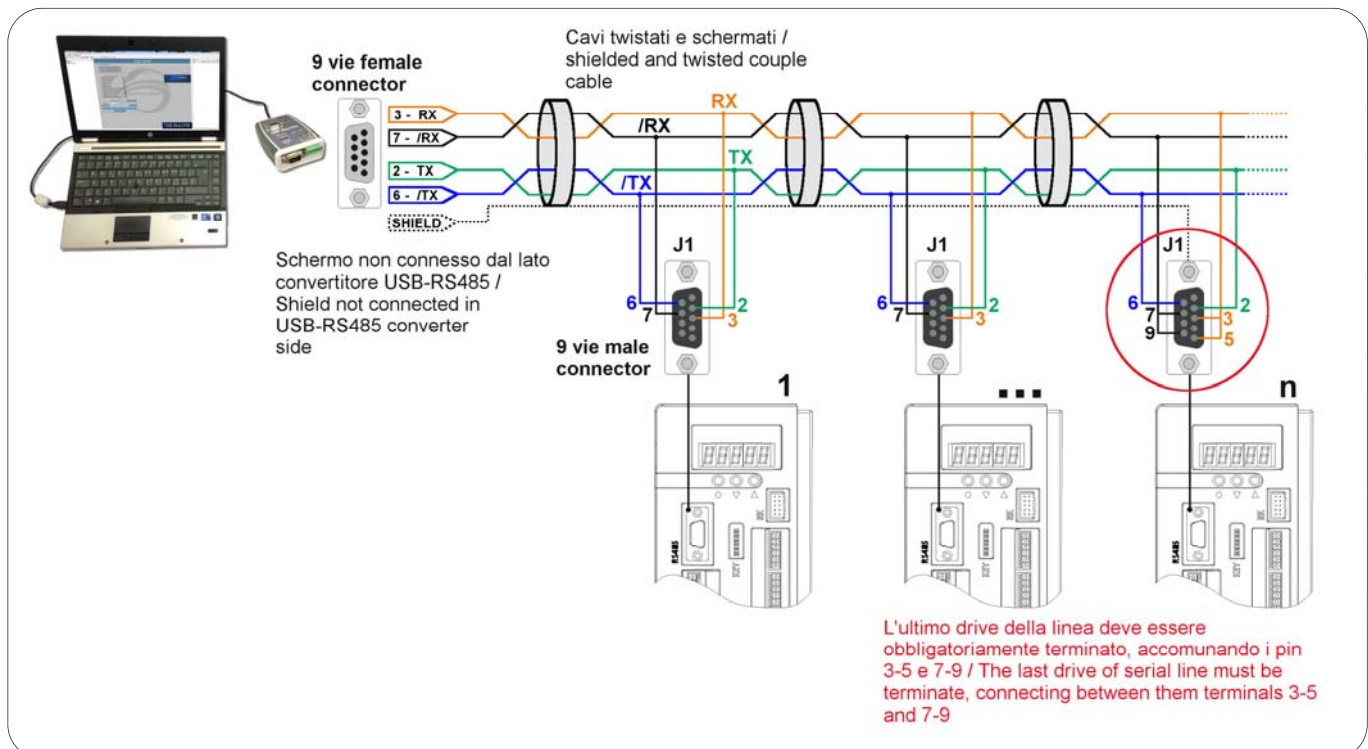

FIG. 20 (Connessione linea seriale con convertitore USB-RS485 / Serial line connection with USB-RS485 converter)
*Impedances are fitted inside the drive to "terminate" the connection (120Ω) and polarize the line, as shown in **FIG. 20**. To use this terminal, connect between them terminals **5 - 3** and **9 - 7** of connector **J1** (for the last drive in the line only).*